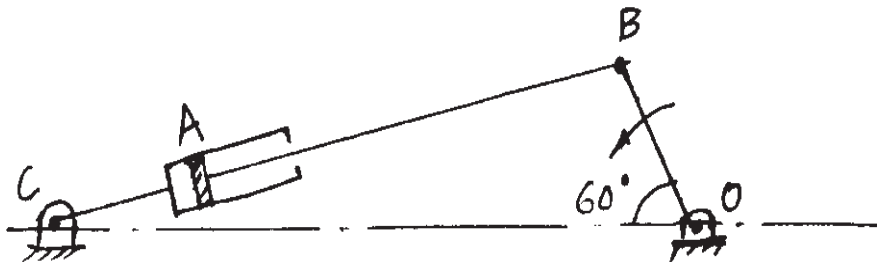

Fig. 4
- Q6)** Fig. 4 shows an oscillating cylinder mechanism Crank OB rotates at 300 rpm in anticlockwise direction. Determine the angular acceleration of cylinder and acceleration of point A on piston. [16]